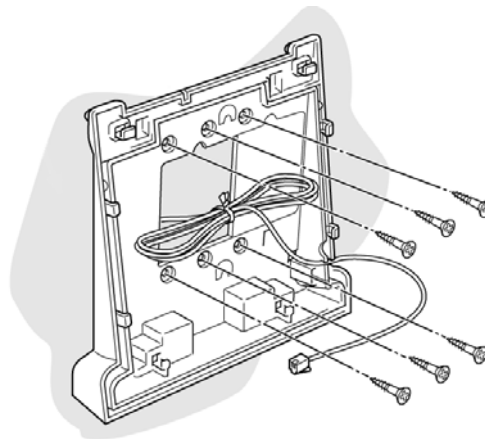

Figure 4-24: Wall Mounting the Base Plate
4. Turn the base cover upside down, feed the line cord through the cutout and attach it to the wall using six screws as shown in *Figure 4-24: Wall Mounting the Base Plate*.